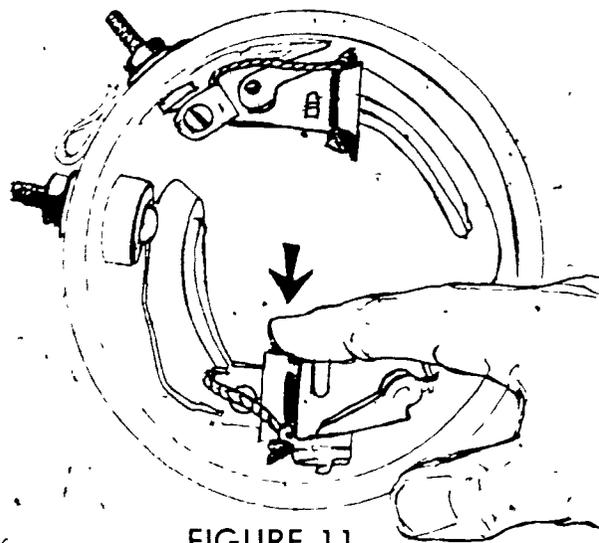

FIGURE 11
6. Install new brushes in brush holders and push brushes back against spring tension (Figure 11)